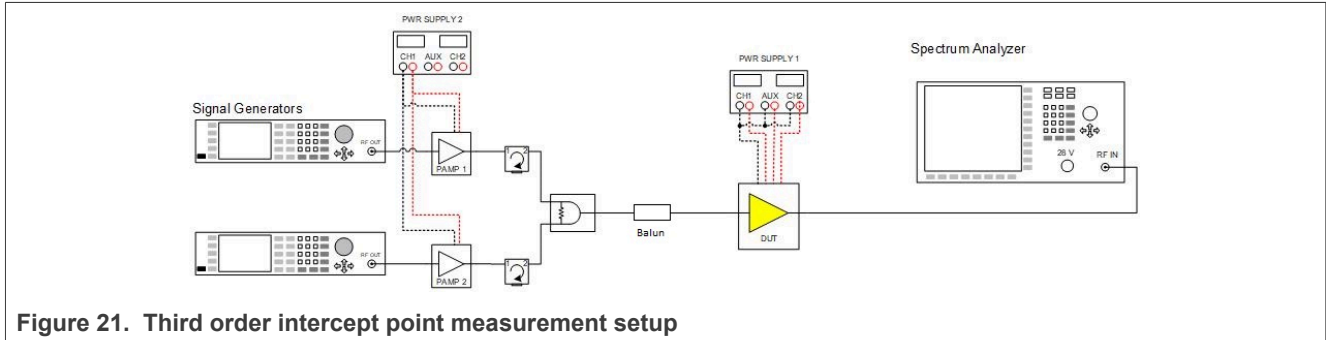

Figure 21. Third order intercept point measurement setup
The saturated output power is measured using the setup shown in Figure 21.
IP_{3o} is measured using a setup shown in Figure 21.
5. Nonlinear distortion measurements IP3 can be performed with a set-up like is depicted in Figure 21. The following settings are recommended to perform the IP3 evaluation.